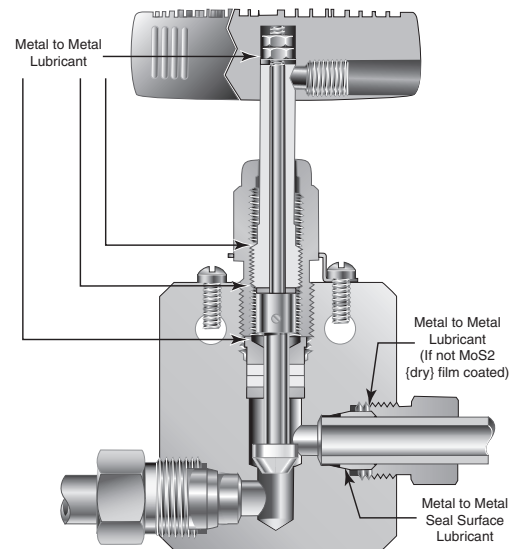

Figure 1
2. Hand Valves - Ideally, the non-rotating stem should be lubricated along the shank that fits into the threaded stem sleeve as well as on the surfaces that are in contact with the stem washers. The threaded stem sleeve should be lubricated on the stem threads and at the ends (see Figure 1). The packing gland should be lubricated on the external threads and on the end that is in contact with the packing washer. For valves with replaceable seats,